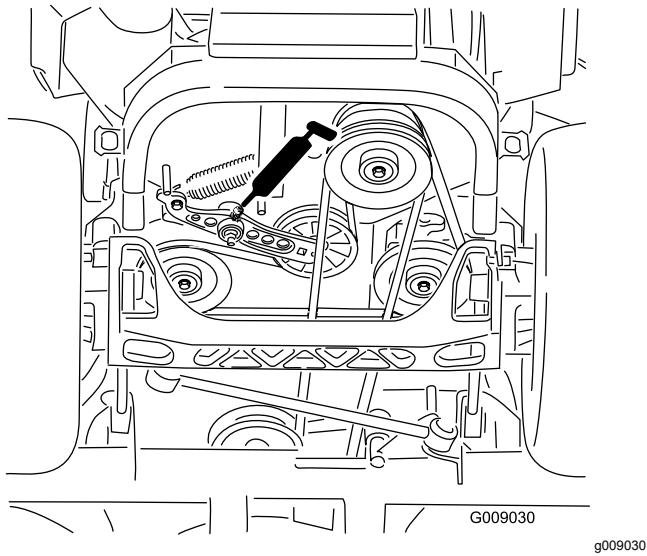

Figure 47
4. Grease the drive-belt idler arms (Figure 47).